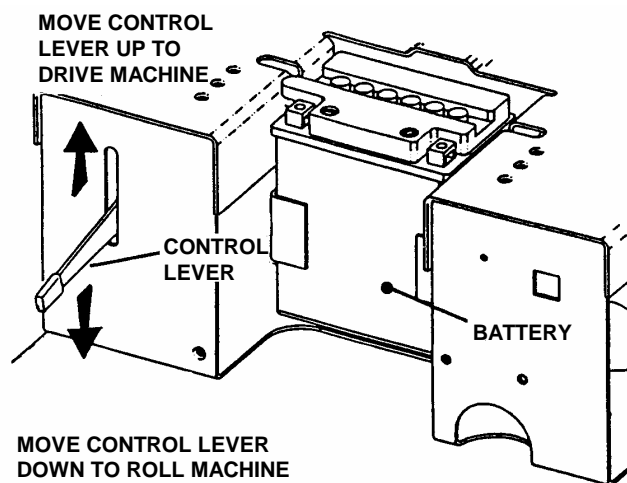

FIGURE 2.4
**IMPORTANT:** To roll the machine without the engine running, pressure within the hydraulic pumps must be released. Tilt seat up and move control lever down to release pressure. **NOTE:** Control lever must be in the "UP" position to drive machine. See Figure 2.4.